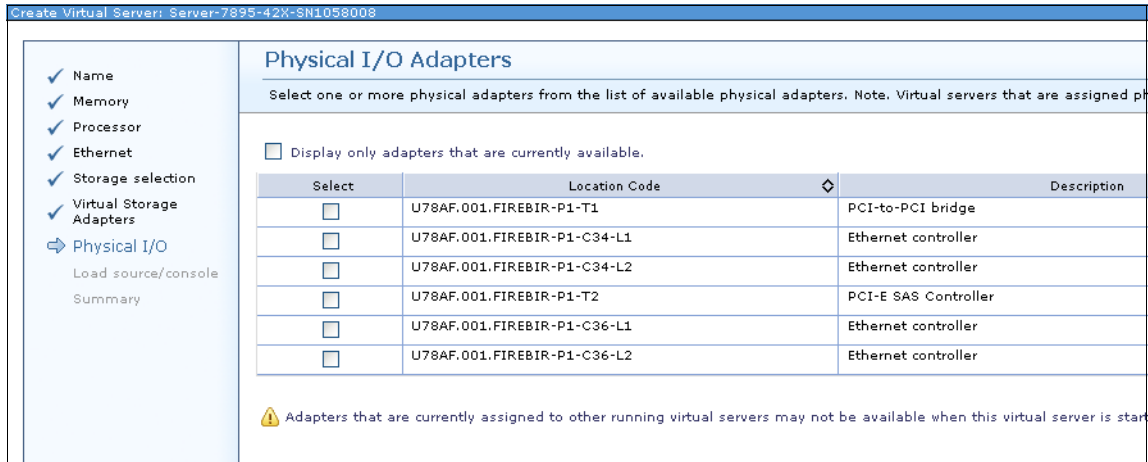

Figure 8-82 IBM i virtual server physical adapter settings
9. In the physical adapter settings window, do not select physical adapters for IBM i virtual servers, as shown in Figure 8-82 on page 429. Instead, click **Next** to proceed to the Load Source and Console settings.